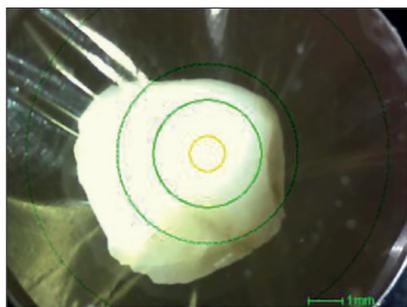
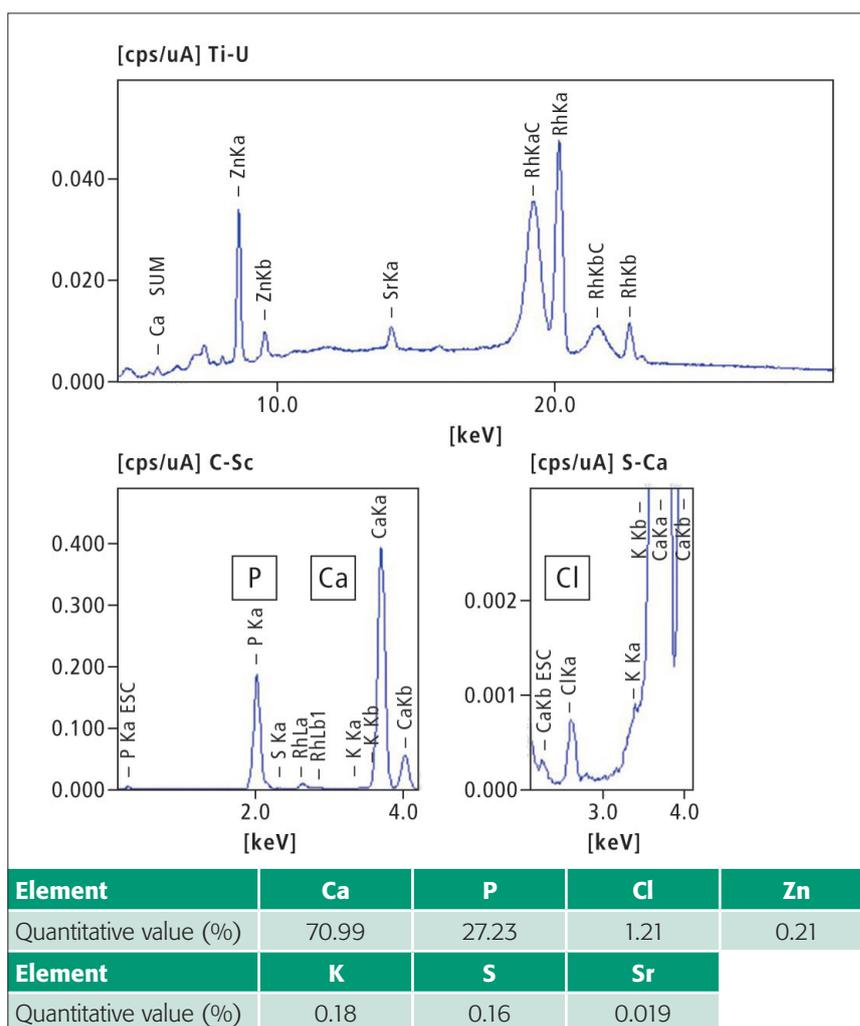

Figure 1. Photograph of contaminant (the yellow circle is the x-ray irradiation range: 1 mm \varnothing).
Figure 2. ED-XRF qualitative and quantitative analysis results of human tooth.
In a first step, a human tooth was analysed. Figure 1 shows a photograph of the contaminant, and Figure 2 shows a qualitative and quantitative analysis by ED-XRF. Calcium (Ca) and phosphorus (P), which are the main components of teeth, could be confirmed. Although the elemental composition is similar to that of bone, the lower content of strontium (Sr) is a characteristic feature of teeth. Like calcium, strontium is an alkaline earth metal and, therefore, can also be used to build teeth.